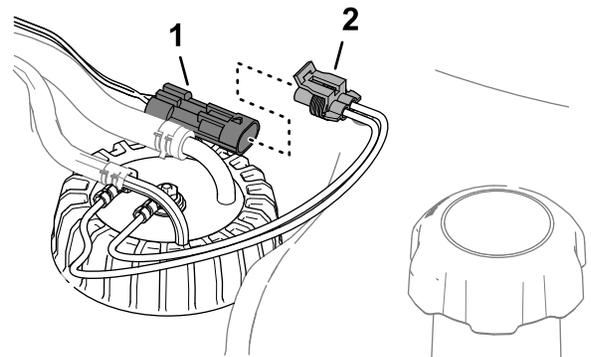

Figure 130
6. Plug the connector of the fuel-sender harness into the connector of the machine wire harness (Figure 130).